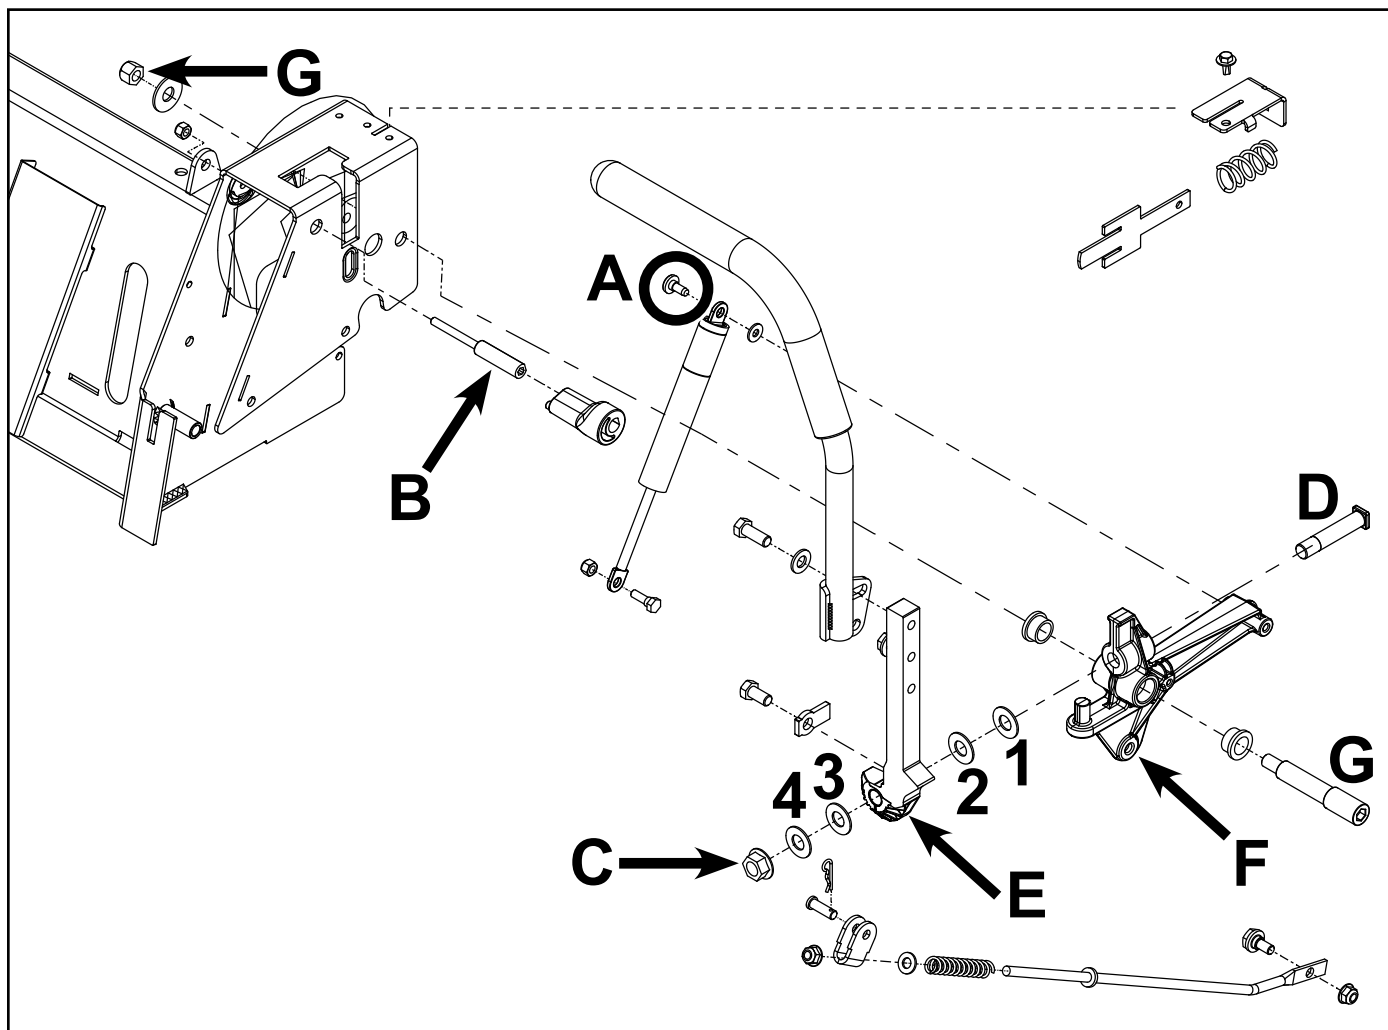

Fig. 034
6. Install the upper motion control damper washer and shoulder bolt (A) to the activator arm (F) and torque to specification - 7.5 ft-lbs. (10 Nm).
7. Index and install the eccentric and fastener (B). Torque nut to specification – 8ft-lbs. (11 Nm).
10. Perform the “Neutral Adjustment” and “Tracking Adjustment” procedures on pages 5-4 and 5-6. (Fig. 034)